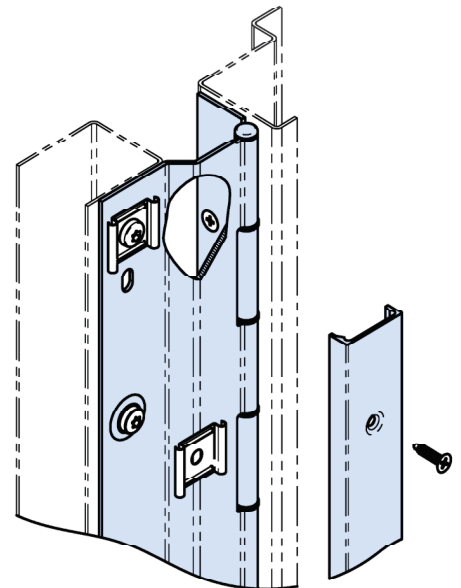

Fig. 2
- E. Install five cover clips by passing a screw through the clip, hinge leaf and door (Fig. 2).